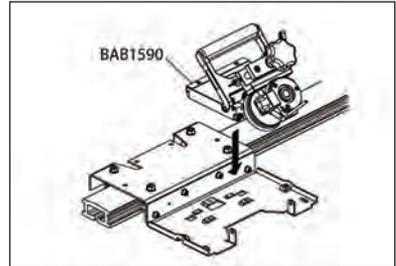

Figure 2
2. Place the BAB1590 on the carriage. (See Figure 2)